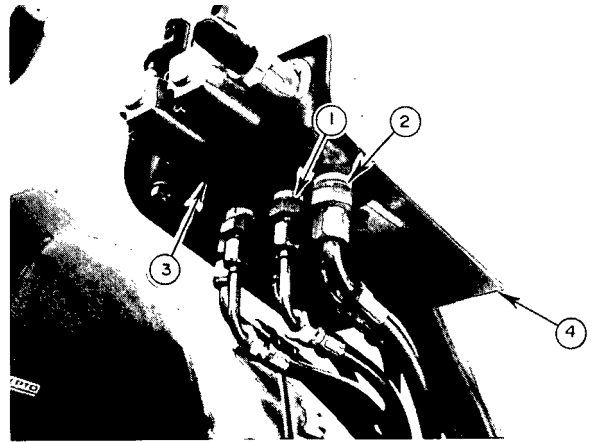

FIGURE 5
- a) Thread the four 3/8" NPT male x 7/16" male connectors (fig.5, item 1) and two 1/2" NPT male x 9/16" male connectors (fig.5, item 2) in the appropriate valve ports, using thread sealant.
- b) Install valve (fig.5, item 3) on underside of valve support (fig.5, item 4) using three 5/16" x 2 1/4" bolts, lockwashers and nuts. Tighten securely.